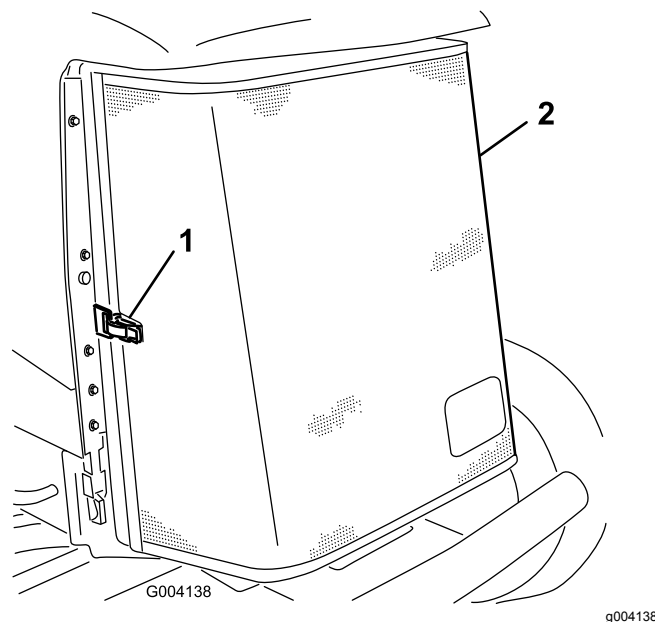

Figure 82
3. Unlatch the clamp and pivot open the rear screen (Figure 82).